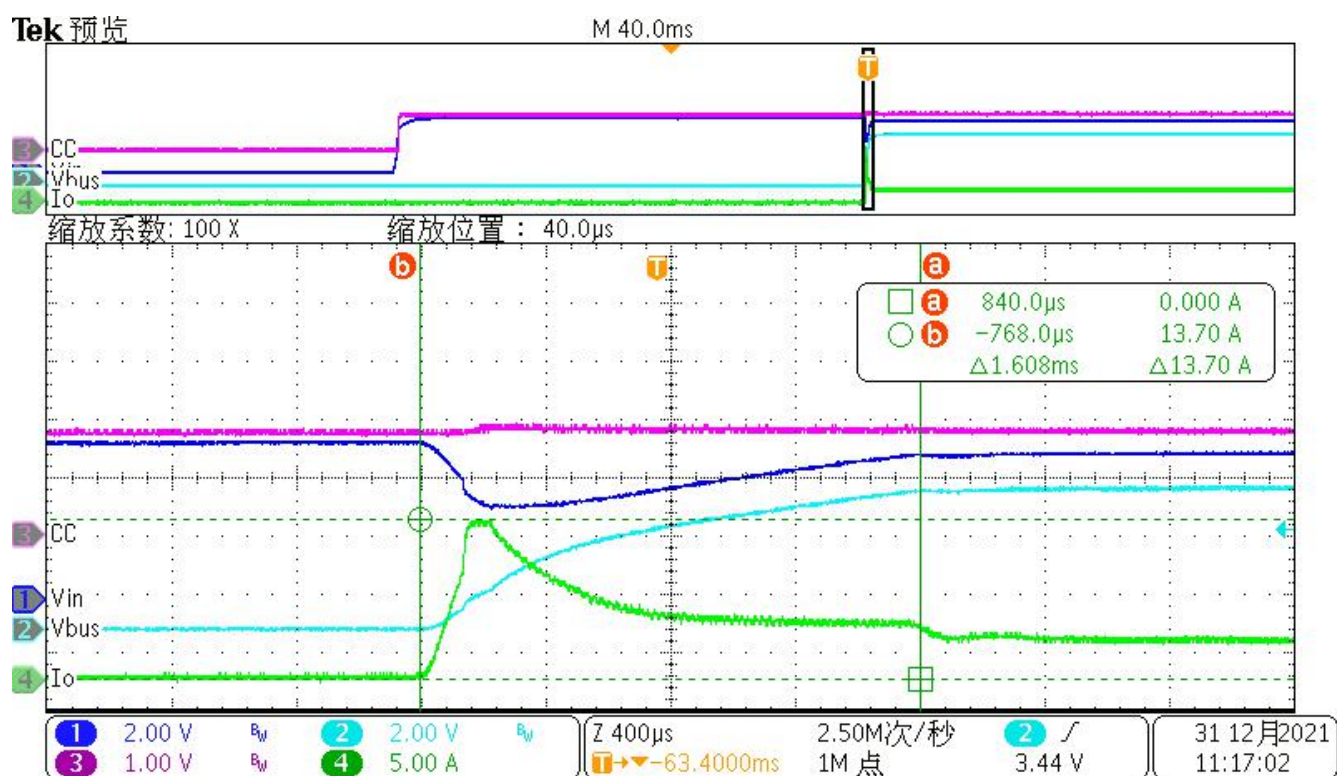

Figure6. the detail wave of 1000uF capacitive load power-on test
3. Connect a 1000uF electrolytic capacitor on the adapter board V_{bus} & GND, and repeat the above two steps, and the wave as shown figure6.